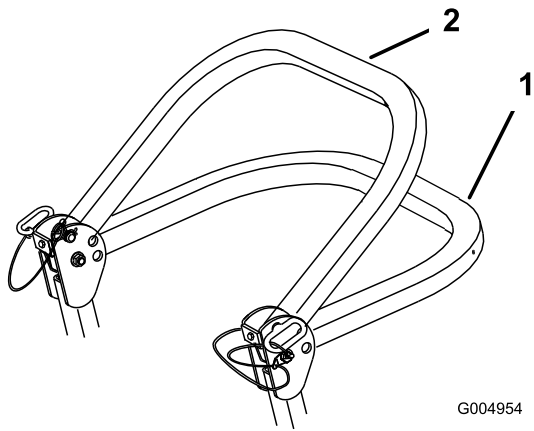

Figure 9
2. Lower the roll bar to the down position (Figure 9).
**Note:** There are 2 down positions; refer to Figure 9.